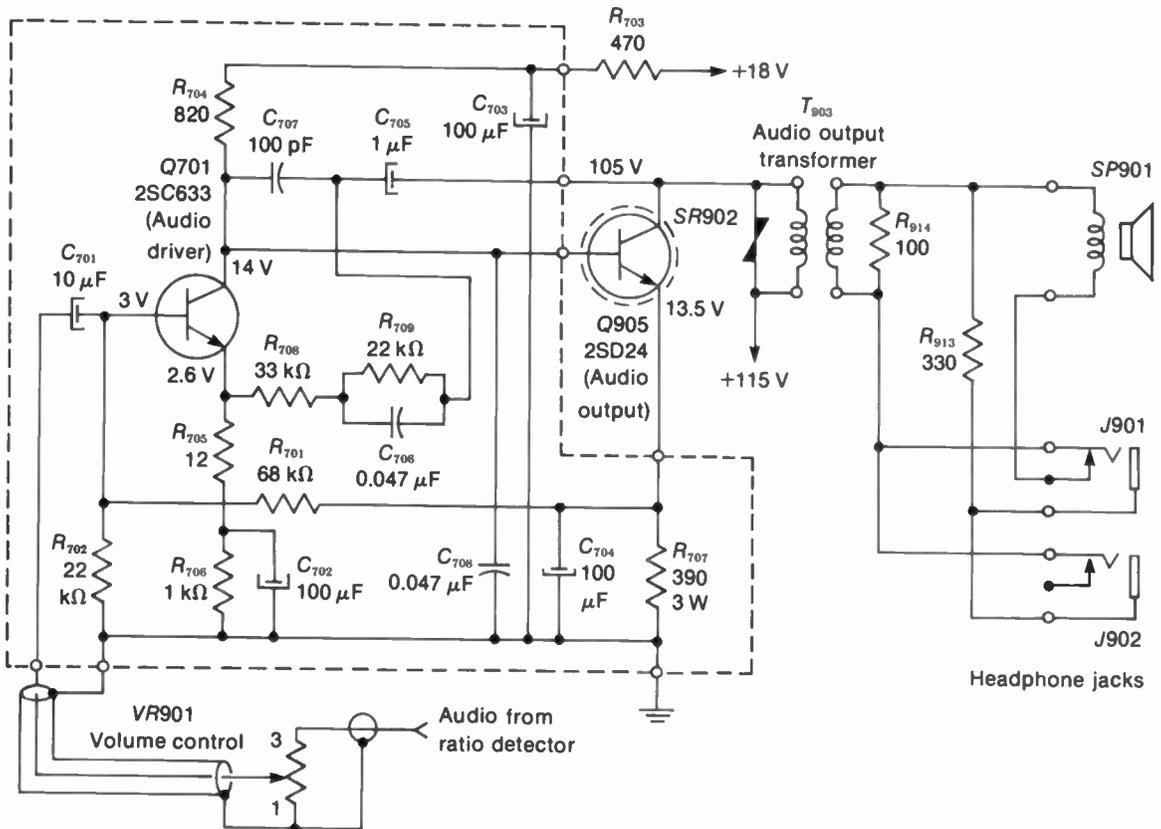
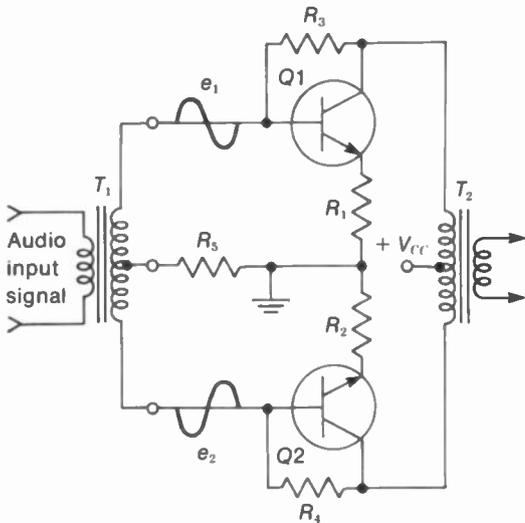

FIGURE 27-21 TRANSISTORIZED AUDIO AMPLIFIER. *R* VALUES IN OHMS. (SONY CHASSIS KV 1210U)
FIGURE 27-22 PUSH-PULL AUDIO AMPLIFIER WITH TRANSISTORS TO DRIVE LOUDSPEAKER.
power output stage (Fig. 27-21). In addition, transistorized audio output stages often use the push-pull circuits illustrated in Figs. 27-22 and 27-23. The loudspeaker impedance is generally 16 to 32 Ω for transistor circuits.
**Transistorized audio amplifier.** In Fig. 27-21, transistor Q701 is a CE (common-emitter) stage. It is the first audio amplifier driving the CE power output stage Q905. The audio input from a ratio detector is coupled by  $C_{701}$  to the base of Q701. Shielded cable is used to prevent pickup of hum. The audio output from Q905 is transformer-coupled by  $T_{903}$  to the 16-Ω